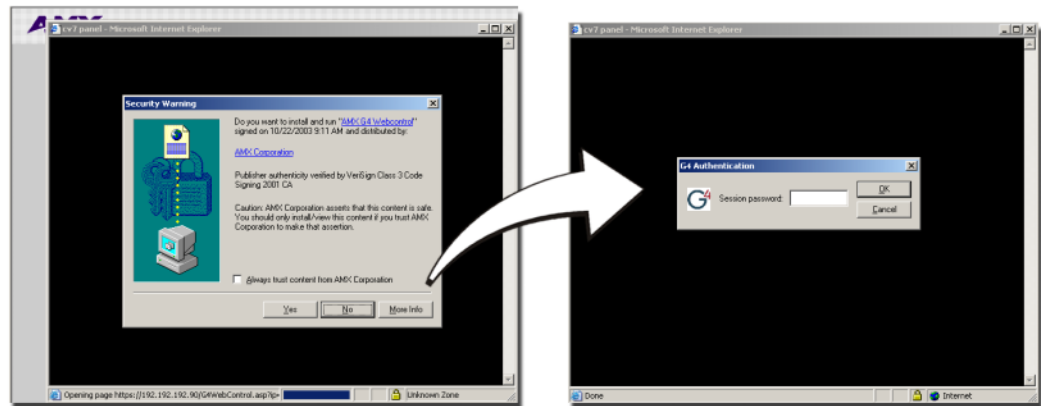

FIG. 50 WebControl VNC installation and Password entry screens
7. Click on the G4 panel name link associated with the target panel. A secondary web browser window appears on the screen (FIG. 50).
10. Enter the WebControl session password into the Session password field (FIG. 50).